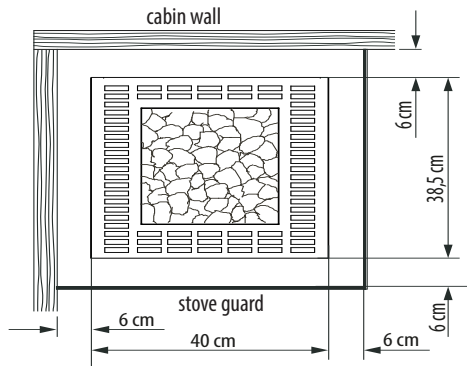

Fig. 1
- When installing the sauna heater, make sure that the horizontal (side) distance between the heater and the cabin wall is at least 6 cm (Fig. 1).